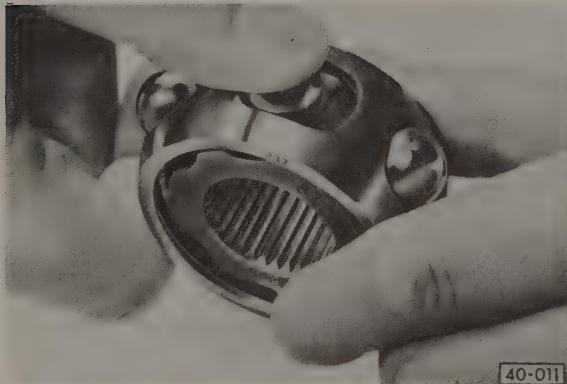

Fig. 5-17. Balls being installed in inner CV joint cage and hub.
3. Install the balls in the cage, as shown in Fig. 5-17, using the adhesion of the molybdenum disulfide grease to hold the balls in place.
The chamfer on the inner splines of the hub (visible in Fig. 5-17) must face the drive axle and the larger diameter side of the outer housing.